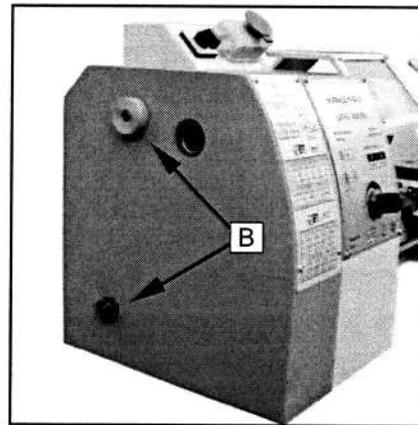

Fig. 15
1. Unscrew the two fastening screws (B, Fig.15) and remove the protective cover.